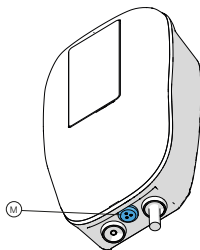

Fig. 3b
- For **Dazebox Home S and T**, as shown in Figure 3b, 3c, 4b, 4c, the shielded network cable passes through a membrane cable pass-through hole (M).